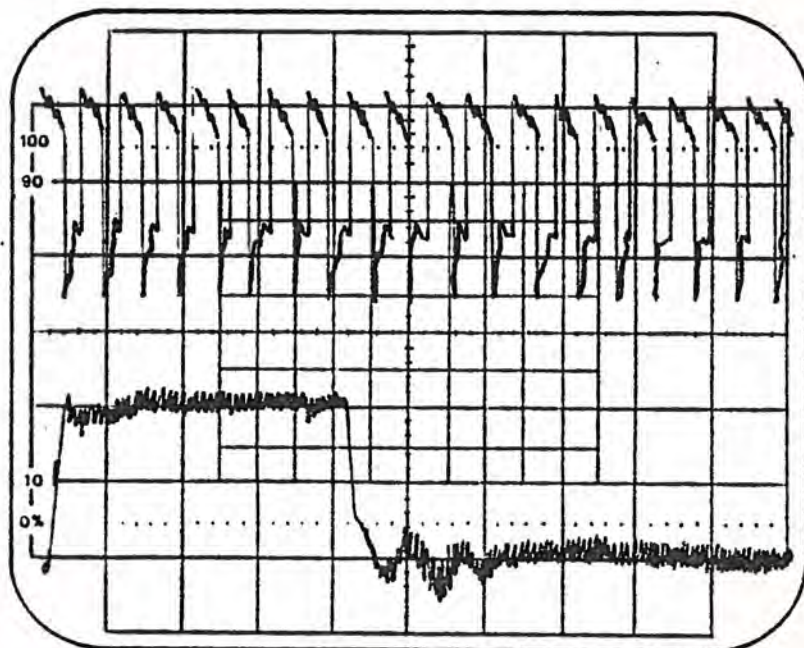

Figure 3-6
- 1) Check IC S and IC W, pins 1 and 15, for enabling pulses (Figures 3-6 through 3-11).
- 3) Follow the same procedure (2) with IC W and address switches A6-A11. Note that the output of IC W does not change levels but adds pulses as the address switches are raised and examined.